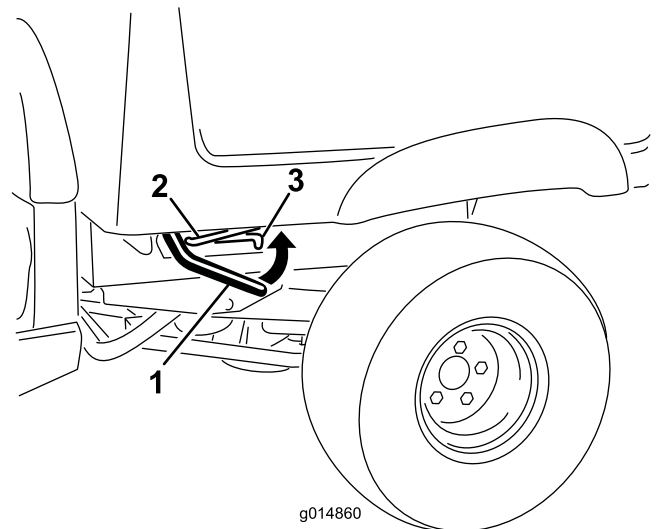

Figure 11
1. Lift the latch lever that is at the either side near the forward corner of the cargo box, and lift the box up (Figure 11).
2. Secure the cargo box by pulling the prop rod into the rear detent at the end of the slot that is in the left frame of the machine (Figure 11).
1. Raise the cargo box slightly by lifting up on the latch lever (Figure 11).
2. Pull the prop rod out of the detent slot (Figure 11).
3. Lower the box until it latches into securely (Figure 11).